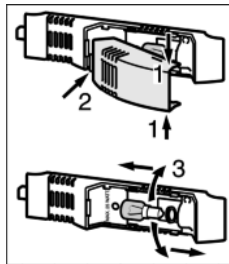

Fig. 3
- ▶ Take hold of the lamp cover at the top and bottom *Fig. 3 (1)*.
- ▶ Disengage the lamp cover at the back and detach it *Fig. 3 (2)*.
- ▶ Replace the lamp *Fig. 3 (3)*.